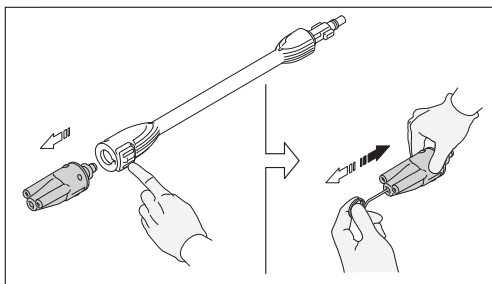

Fig. 22
- Take off the nozzle. Using the nozzle tip cleaner provided (or an unfolded paper clip), insert the wire into the nozzle hole and move back and forth until debris is dislodged (Fig. 22). Back flush water through the nozzle using garden hose and highest pressure available (either standard water nozzle or use your thumb over the nozzle to create water pressure for back flush).